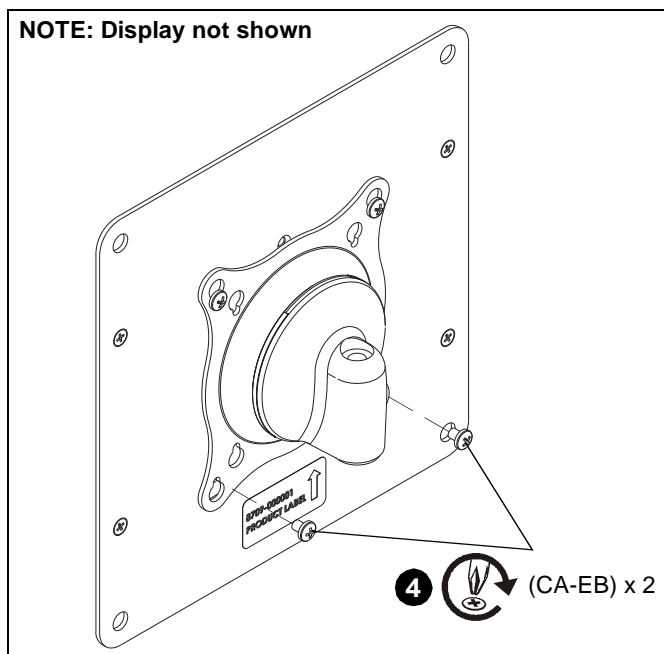

Figure 8
4. Insert two lower mounting screws into lower teardrop mounting holes in Centris head. (See Figure 8)